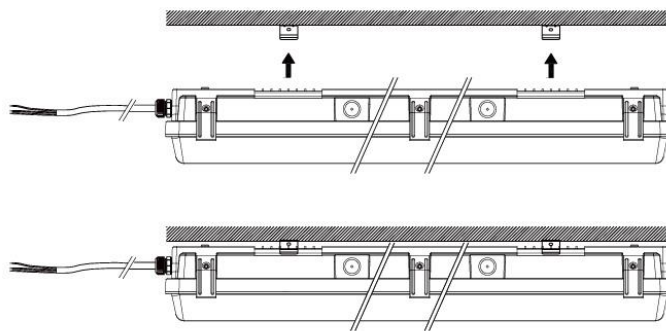

Figure 2
3. Push the Fixture into the Bracket Slot. See Figure 2.